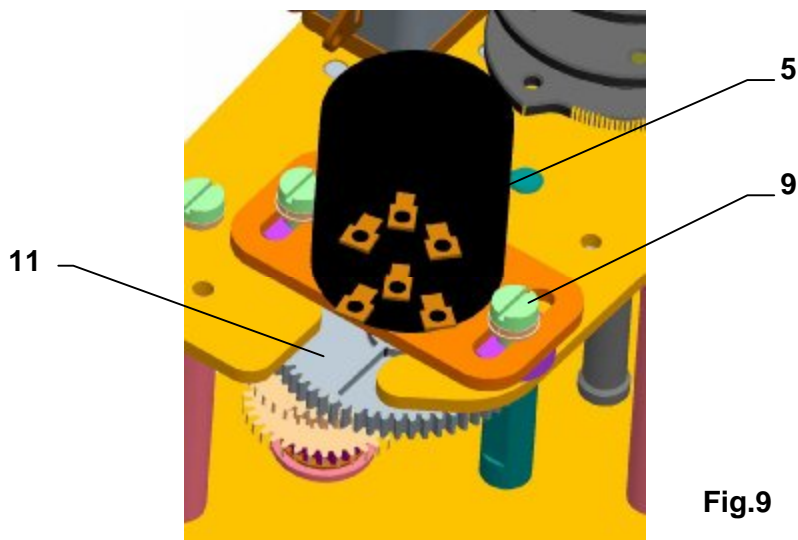

Fig.9
- Turn the position indicator disc (32) to bring a mark identified with a symbol for the „close“ direction in coincidence with a mark on the upper cover aperture (If it is difficult to turn the wheel, release the screw using the screwdriver to fix the wheel).
- Turn the upper part of the position indicator disc (32) to bring a mark identified with a symbol for the „open“ direction in coincidence with the mark on the upper cover aperture.
4.4 Adjustment of resistant transmitter (Fig.9)